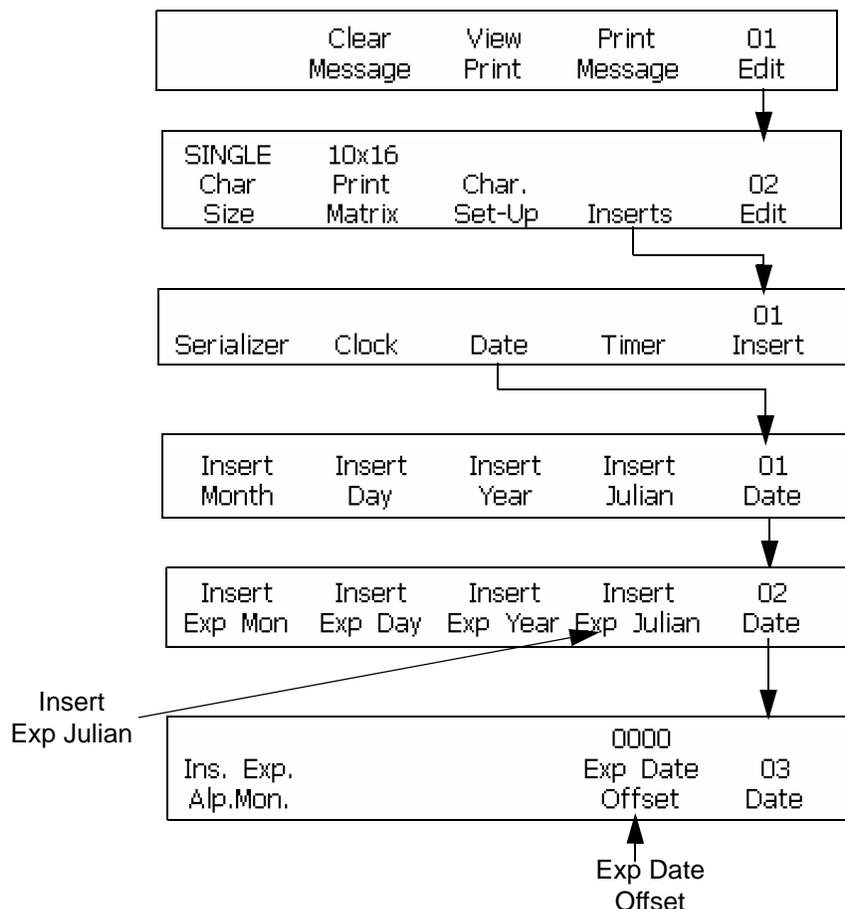

Figure 6-38: Accessing Frame <03 DATE>
- 1 Begin in the Frame <02 Date>. Refer to Figure 6-38 on page 6-49.